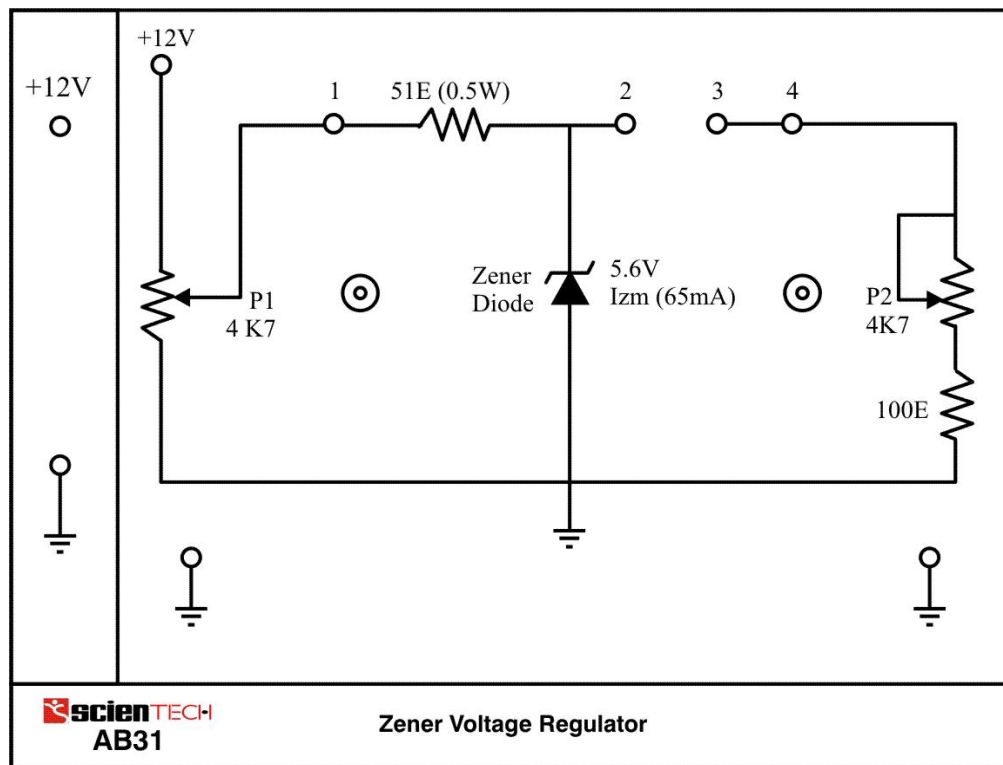

Figure 2
Circuit used to study Zener diode as a voltage regulator is shown in figure2.
2. The result of Experiment 2 reveal that for the network of figure 2 with a fixed input voltage V_{in} the output voltage will remain fixed at 5.6 V for a range of load resistance that extends from to .